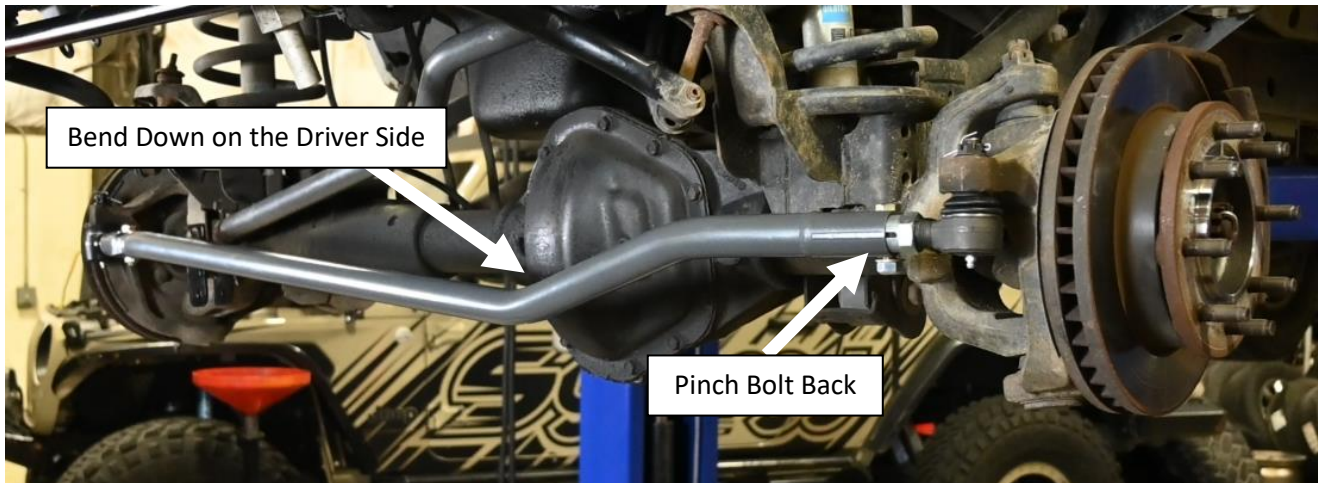

Figure 11. Tie Rod Shown with Pinch Bolts Back and Bend Down.
14. Install the tie rod. Position the bar so that the bent part of the tie rod points downward on the driver side of the truck, allowing clearance for the pitman arm at full compression. The double adjuster should be on the driver side, and the pinch bolts should be on the back of the tie rod. See **Figure 11**.